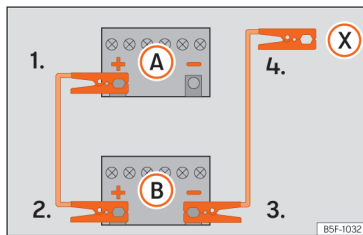

Fig. 222 Diagram of connections for vehicles without Start Stop system
- Vehicles without a Start-Stop system:* connect one end of the black jump lead to the negative terminal (-) of the vehicle providing the current **B** »» Fig. 222.